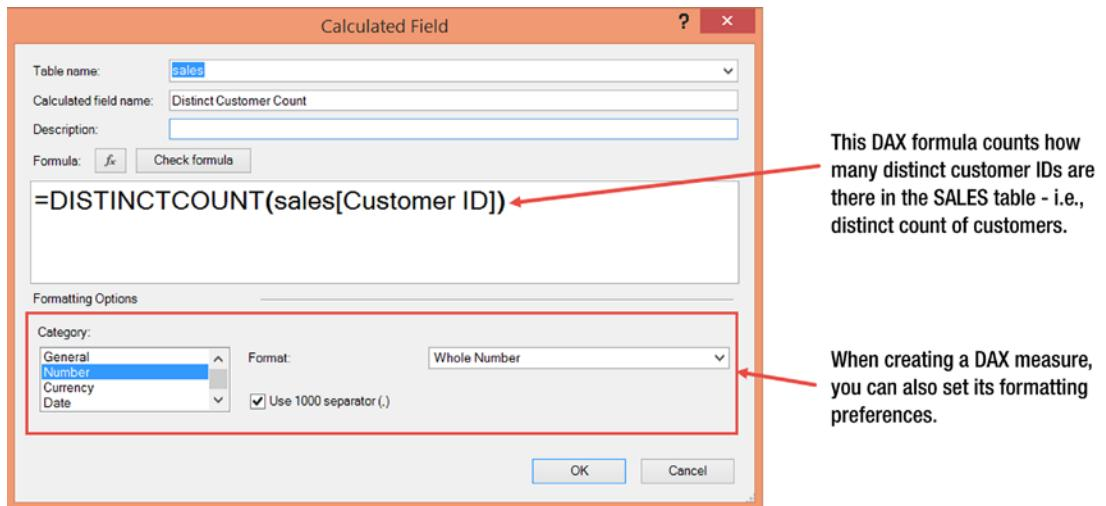

Figure 24-14. DISTINCTCOUNT() PowerPivot measure, explained
6. Set Format to Whole Number with a thousands separator. See Figure 24-14.